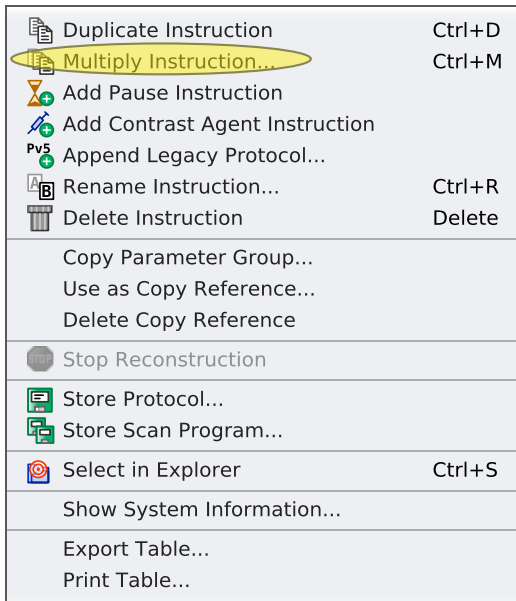

Figure 1.7: Context Menu Examination Card
2. Open the context menu (see [Figure 1.7 \[p 34\]](#)) and invoke **Multiply Instruction**.